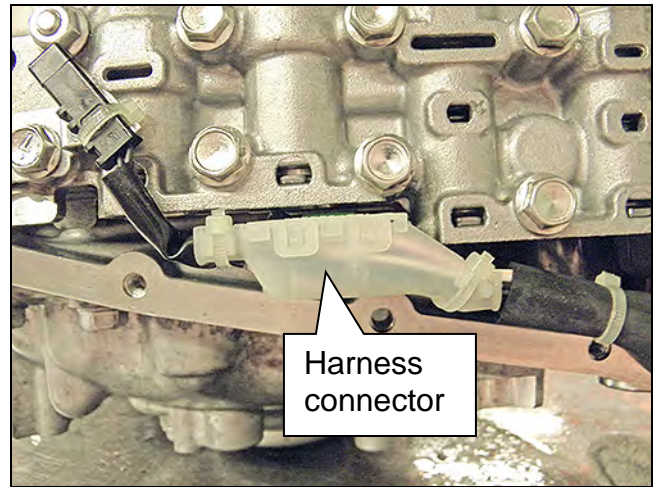

Figure 22
5. Connect the electrical harness connector (Figure 22).